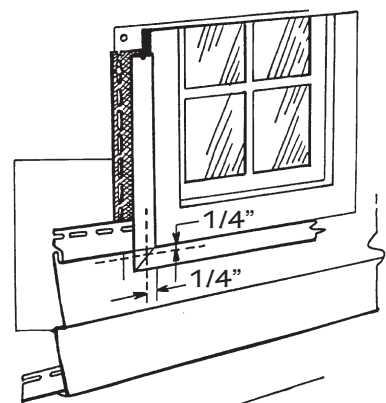

Figure 41.
- Hold the panel under the window and mark the width of the window opening on the panel. Add approximately $1/4"$ (6.4mm) to both sides to allow for expansion and contraction of the siding. These marks represent the vertical cuts (Fig. 41).